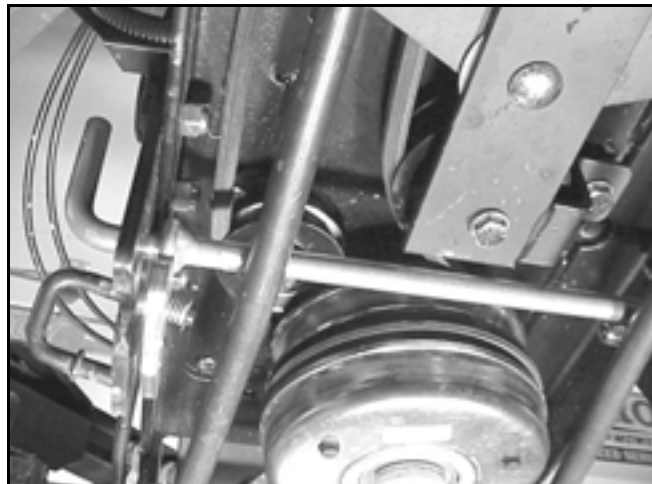

Figure 157
8. Route the drive belt around the flat and v-idler pulleys and then around the engine drive pulley (Figure 157).